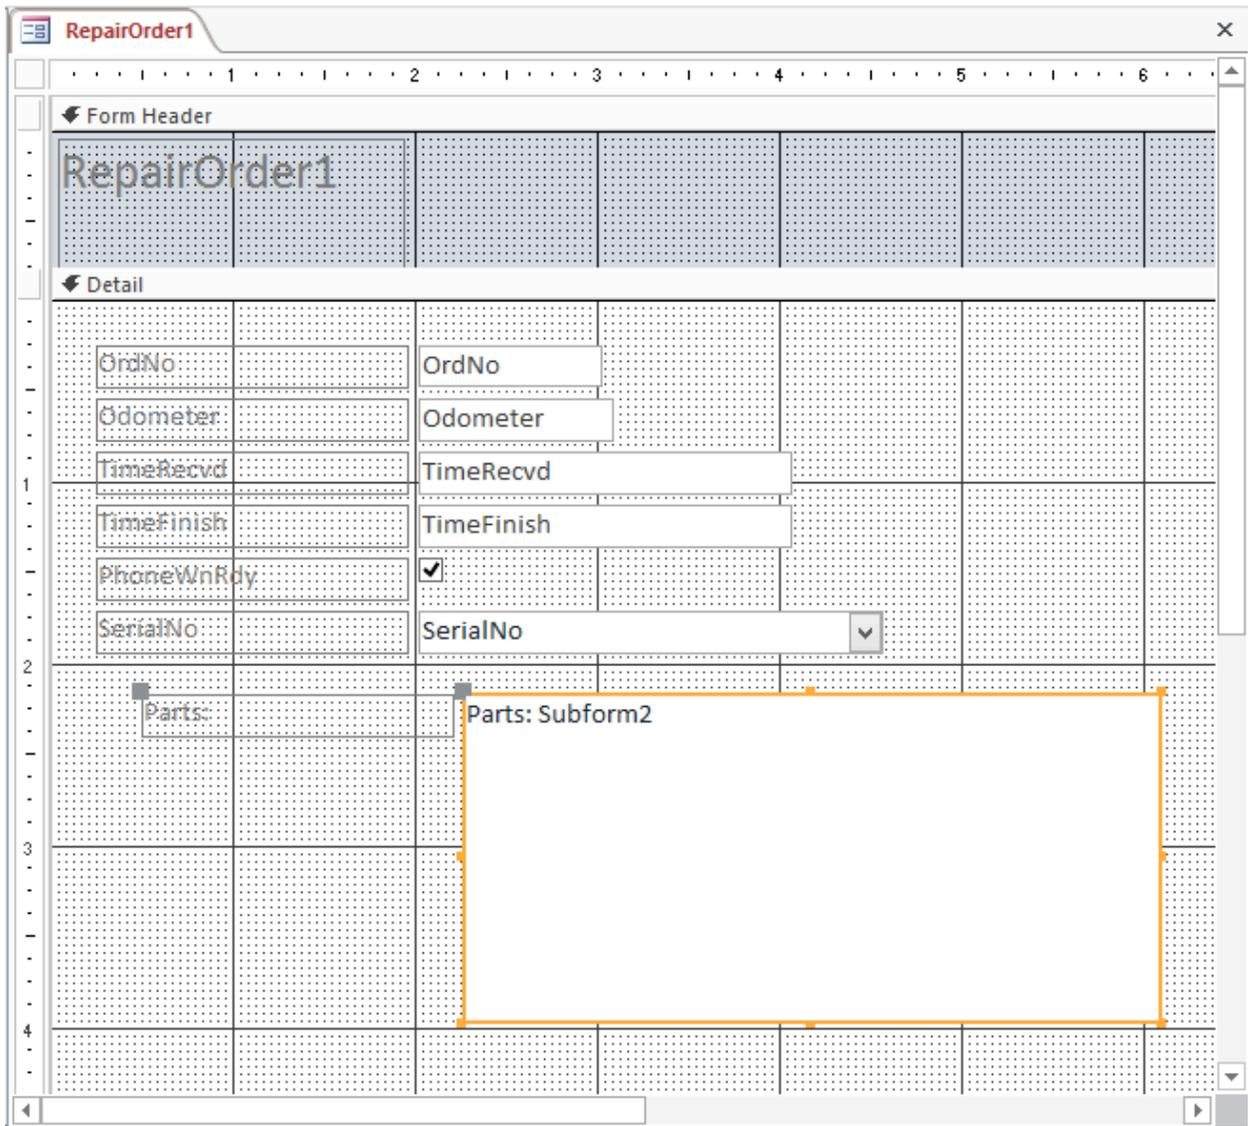

Figure 10: Design View for the *RepairOrder1* Form
- Name the Form: Type “RepairOrder1” for the main form and “Parts: Subform2” for the subform (there is a space between Parts: and Subform2). In the same window, select the second option, “Modify the form’s design”, and click **Finish**. The *RepairOrder1* form appears in design view as in Figure 10.